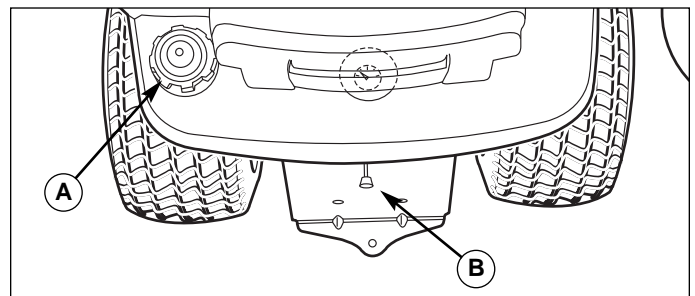

Figure 4. Transmission Release Lever & Fuel Tank
1. Remove the fuel cap (A, Figure 4).
2. Pull the transmission release (B, Figure 4) back approximately 2-1/2" (6 cm) to lock into released position.